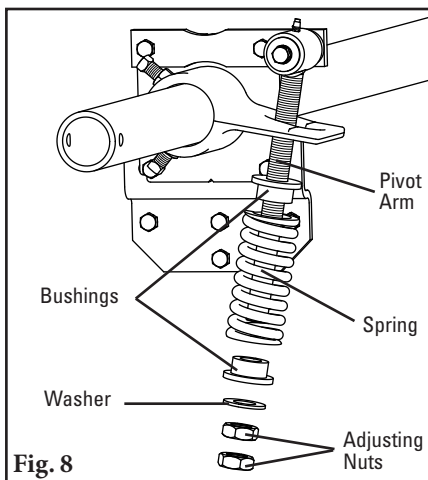

Fig. 8
13. Reassemble the spring assembly. Slide the spring, washer and bushings onto the pivot arm and turn the two adjusting nuts so about 1/4" of the pivot arm is exposed above the nuts (Fig. 8).